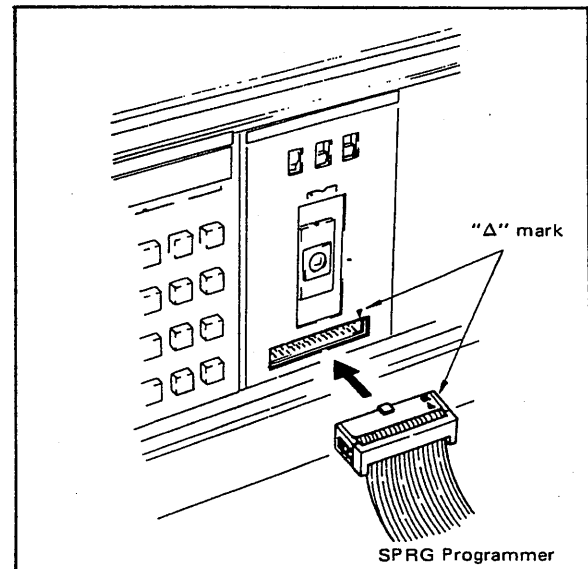

Figure 5-7-1. Connecting with SLMC.
- (1) Turn off both the SLMC and SPRG.
- (2) Set the SPRG to the PROGRAM mode.
- (3) Connect the SPRG cable connector to the SLMC (see Figure 5-7-1).
- (4) Turn on the SPRG.
- (5) Turn on the SLMC.